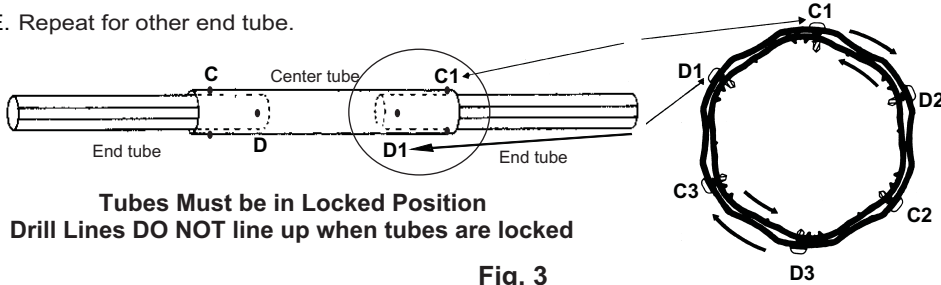

Fig. 3
- B. Lock tubes together by rotating the center tube in the opposite direction to end tube. **HOLD TUBES LOCKED WHILE YOU INSTALL FIRST SELF-DRILLING SCREW ON A DRILL LINE, 1" (2.5 cm) back from end of center tube at Location "C1"** (see Fig. 3 & 4).
- C. Place 2 more self-drilling screws at Location "C2" & "C3" - 1 screw at every second drill line around tubes (see Fig. 3).
- D. At "D" locations install 3 screws around the center tube at every second drill line, 1" (2.5 cm) back from where you marked the end of the inner tube from Fig. 2A (see also Fig. 3).